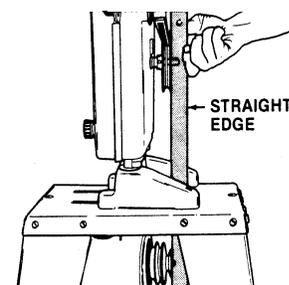

Figure 1 - Use a straightedge to align the pulleys.
11. Use a straightedge to align the pulley steps you want to use, making sure they are in line with each other, see Figure 1. You can adjust the pulleys by sliding them on their shafts.